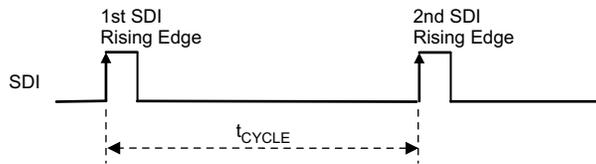
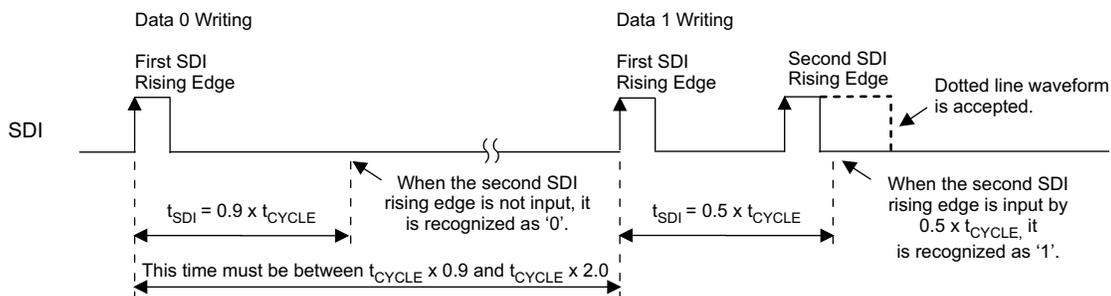

Figure 14. Data Transfer Rate ( $t_{CYCLE}$ ) Measurement
Figure 15. Data '0' and '1' Write Operation
The TLC5973 measures the time between the first and second SDI rising edges either after the device is powered up or when the GS data latch sequence is executed (as described in the GS Data Latch Sequence \(GSLAT\) section) and the time is internally stored as  $t_{CYCLE}$ .  $t_{CYCLE}$  serves as a base time used to recognize one complete data write operation, a 48-bit data write operation, and a GS data write operation to the GS data latch.  $t_{CYCLE}$  can be set between  $0.33 \mu s$  and  $10 \mu s$  ( $f_{CLK(SDI)} = 100 \text{ kHz to } 3000 \text{ kHz}$ ). In this sequence, two instances of data '0' are written to the LSB side of the 48-bit shift register. Figure 14 shows the  $t_{CYCLE}$  measurement timing.
When the second SDI rising edge is not input before  $0.9 \times t_{CYCLE}$  elapses from the first SDI rising edge input, the data are recognized as '0'. When the second SDI rising edge is input before 50% of  $t_{CYCLE}$  elapses from the first SDI rising edge input, the data are recognized as '1'. This write sequence must be repeated 46 times after the  $t_{CYCLE}$  measurement sequence in order to send the write command to the higher 10-bit (3AAh) and 36-bit GS data. Figure 15 shows the data '0' and '1' write timing.
2. Write the 48-bit data packet (MSB-first) for the first device using  $t_{CYCLE}$  and the data write sequences illustrated in Figure 14 and Figure 15. The first 12 bits of the 48-bit data packet are used as the write command. The write command must be 3AAh (001110101010b); otherwise, the 36-bit GS data in the 48-bit shift register are not copied to the 36-bit GS data latch.